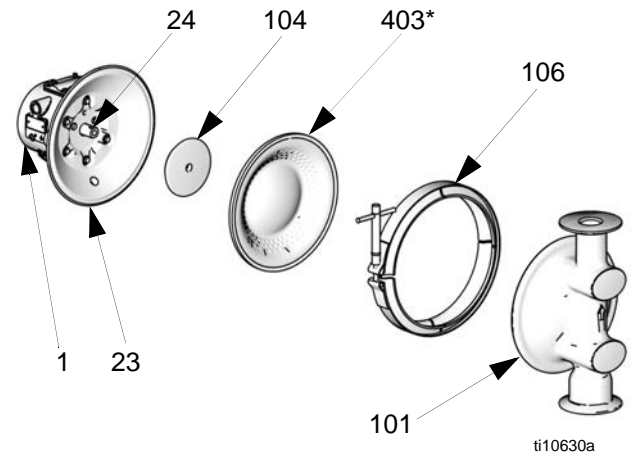

FIG. 12
3. Remove the clamps (106) holding the fluid covers (101) to the air covers (23). Pull the fluid covers (101) off the pump. See FIG. 12.
5. Diaphragms are assembled handtight. To loosen, grip both diaphragms securely around the outer edge and rotate counterclockwise. One diaphragm assembly will come free and the other will remain attached to the shaft. Remove the freed diaphragm (403) and air side plate (104).
6. Pull the opposite diaphragm assembly and shaft (24) out of the center housing (1). Hold the shaft flats with a 19 mm open end wrench and remove the diaphragm and air side plate from the shaft.
7. Inspect the diaphragm shaft (24) for wear or scratches. If it is damaged, inspect the bearings (19) in place. If the bearings are damaged, refer to page 23.
8. Reach into the center housing (1) with an o-ring pick and hook the u-cup packings (402), then pull them out of the housing. This can be done with the bearings (19) in place.